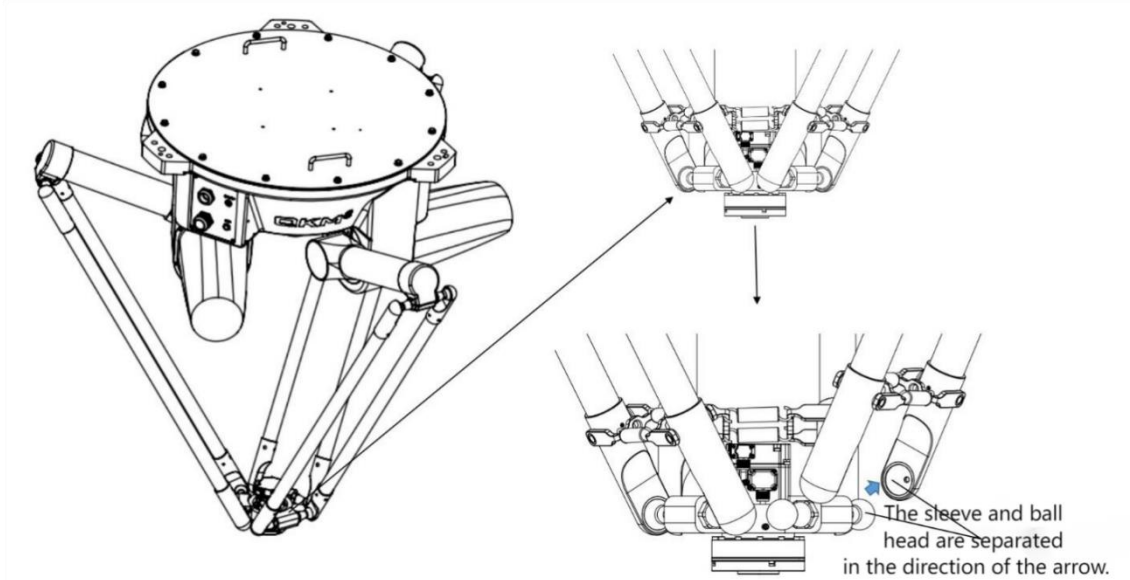

Figure 3-11 Schematic diagram of moving platform and universal joint
Step 3 Release the ball joint at the connection end of the driven arm and the moving platform (refer to Figure 3-11 for the operation steps). At this time, the moving platform and the rotating shaft slide down under the action of its own gravity. Support measures should be taken to disassemble the three driven arm shafts in turn, and the removal of the moving platform is complete.